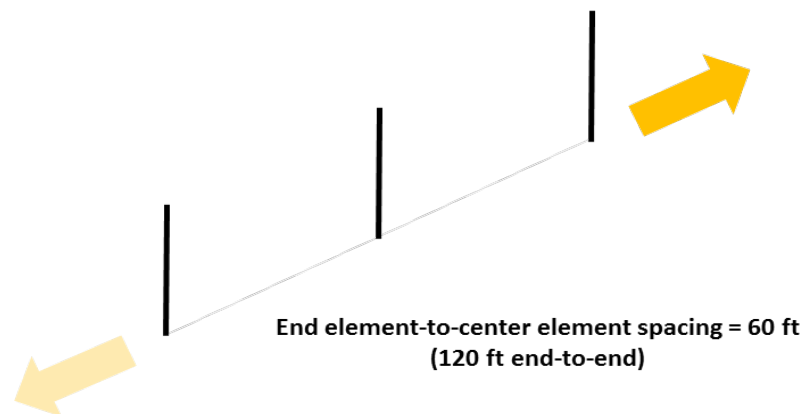

Figure 1. 3-element inline configuration
1. 3-element inline: A single array with two directions of coverage as indicated by the arrows in Figure 1. End-element to center-element spacing is 60 feet, giving an end-to-end span of 120 feet. Note that this spacing is different than the 70 feet originally specified in the NCJ article. The reason for the change is that improved performance is obtained on 80 meters with virtually no degradation on 160 meters. The closer spacing also yields a 40m beam pattern that may be useful, although not as directive as on 160 or 80.